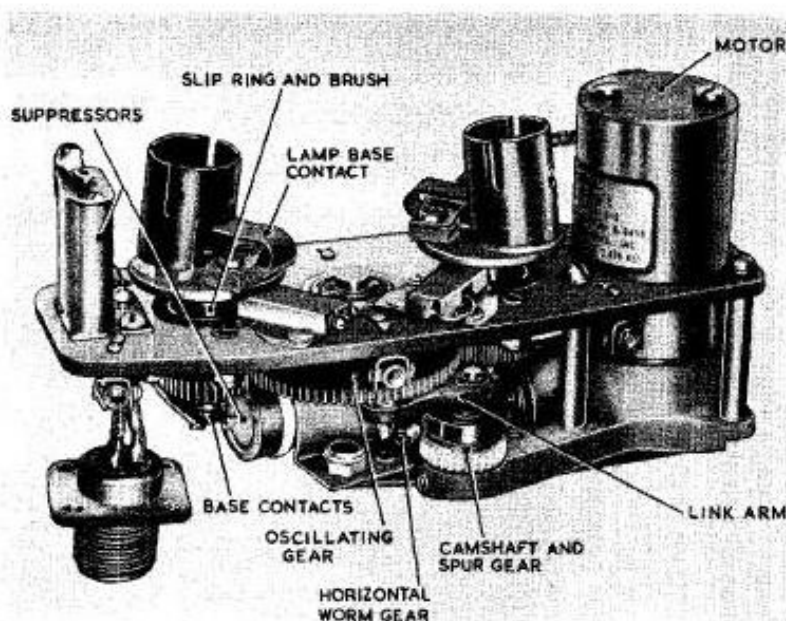

Fig. 2. Lamp mechanism
5. The motor is a permanent magnet, 28 volt d.c., totally enclosed motor with a worm drive secured to the shaft. The motor is vertically mounted through a hole in the mechanism top plate and secured by two screws passing through the lower casting, shown in fig. 2. The motor steel worm drives the horizontal shaft through a nylon spur gear secured to the shaft, which rotates in two bearings fitted to the lower casting; at the other end of the horizontal shaft is a worm gear. Bearing on the end of the shaft and nylon spur gear is a felt oil pad which is lubricated with oil OX-14 (Ref. No. 34B/9100590).
6. The spur gear and cam shown in fig. 2 consist of a nylon spur gear and eccentric steel cam secured together, each running on bearings fitted to the camshaft. The camshaft is fitted in the lower casting and secured by a grub screw. The nylon spur gear and cam are driven by the horizontal worm gear, and on the eccentric face of the cam is a pivot to which is pivoted the link-
connected to the supply by means of a slip ring and a contact on each lampholder assembly (shown in fig. 2). The positive connection is made through the base contacts, one contact being a stationary leaf-spring, bearing upon the other contact which is fitted in the lamp holder shaft. This contact is insulated from the lamp holder and the lamp holder shaft but rotates with them, a lead soldered to the contact runs through the centre of the shaft to the lamp base contact which is also insulated from the lampholder as shown in fig. 2. The negative connection is made by a brass slip ring at the base of the lamp holder and an earthed brush.